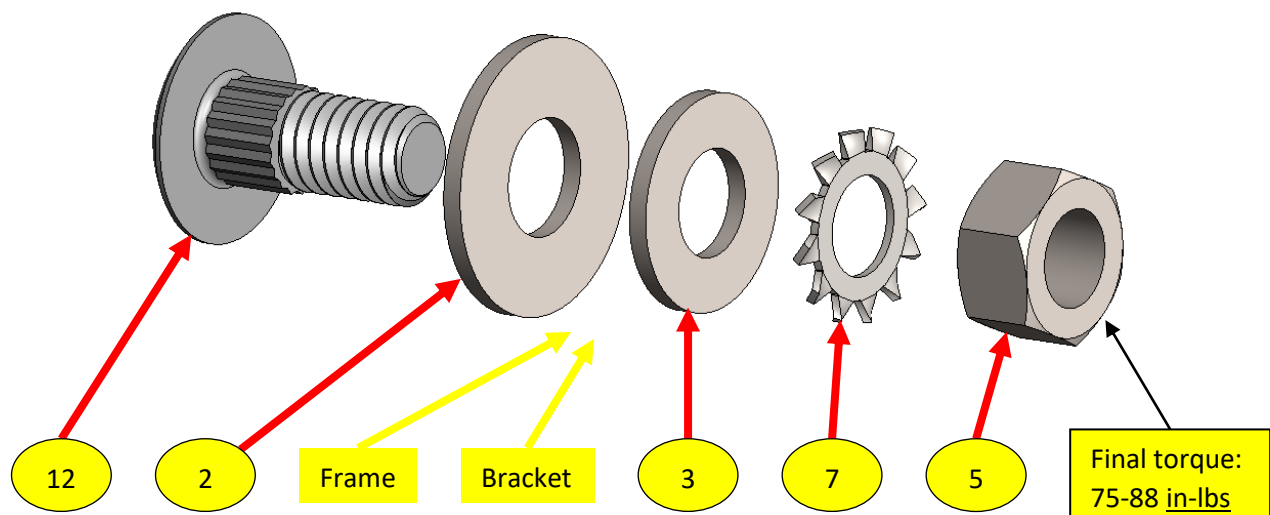

Figure 14 - Knurled Carriage Bolt “Stack-up” (Common throughout)
10.2.3. All Knurled Carriage Bolts will be attached to frame and Brackets in order shown in Figure 14 below.